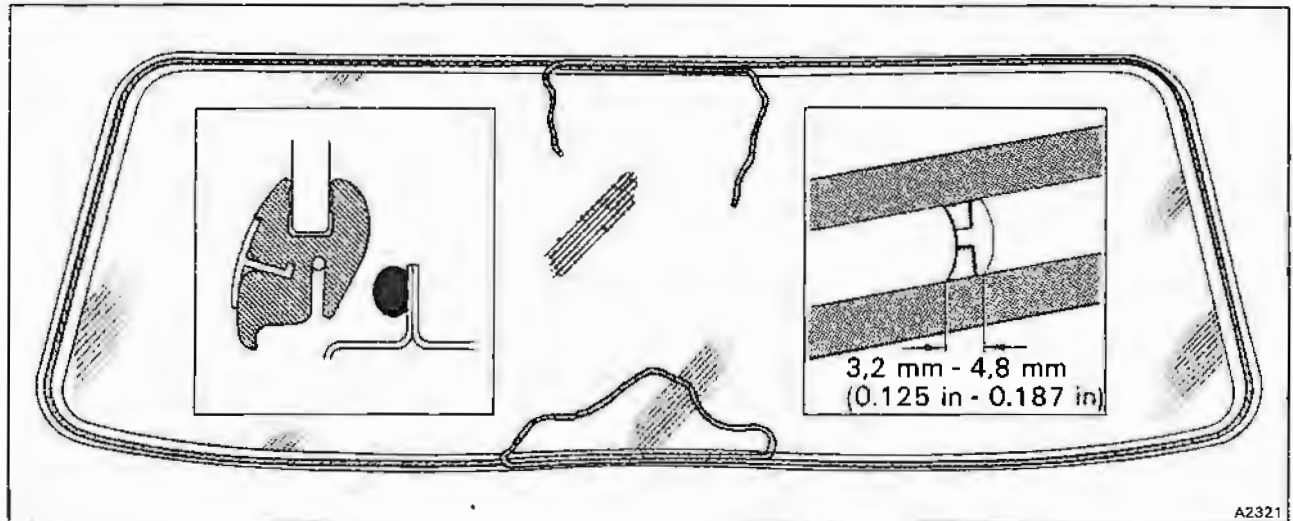

Fig. S24-3 Position of cord and sealing arrangement
3. Apply a small amount of Palm Grease, or its equivalent, to the base of the windscreen finisher i.e. the section of the finisher that fits into the moulded seal. Press each half of the finisher into the seal. Check that a gap of between 3,2 mm and 4,8 mm (0.125 in and 0.187 in) exists between each half of the finisher (see fig. S24-3).
5. Turn the windscreen over so that the internal surface is uppermost. Thread a length of cord around the inside lip of the seal (see fig. S24-3). Leave a loop in the cord at the bottom of the windscreen and overlap the two ends of the cord at the top. Secure the loose ends of the cord to the glass with masking tape.